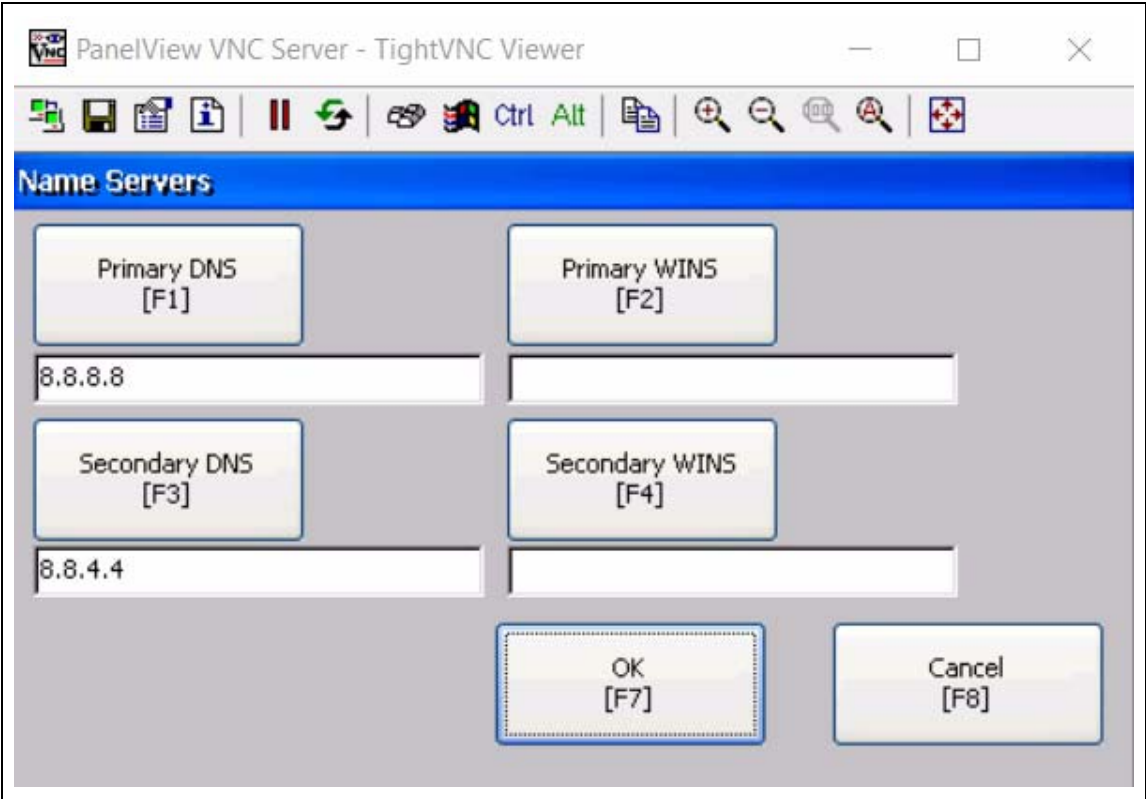

Figure 4H
8. Typical DNS settings using Google's DNS servers are seen below. Press Primary DNS or Secondary DNS to make changes. (See Figure 4H.)